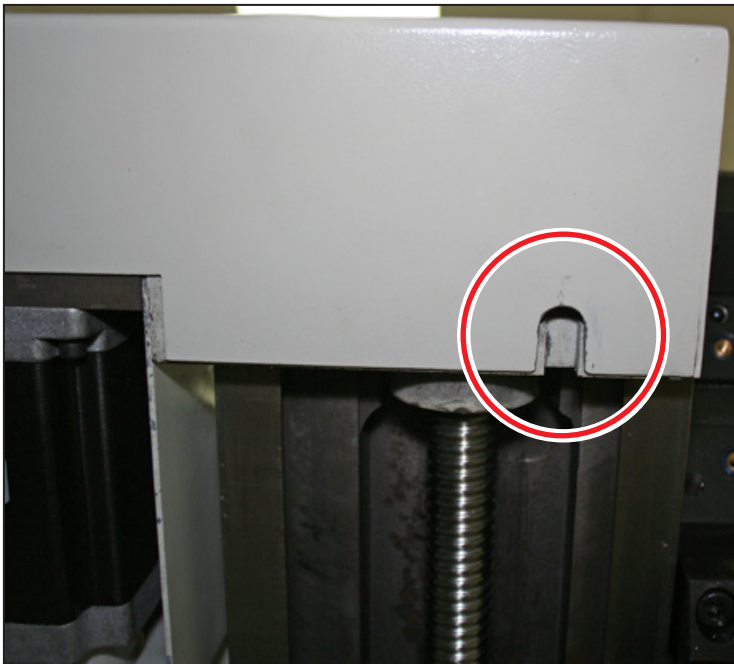
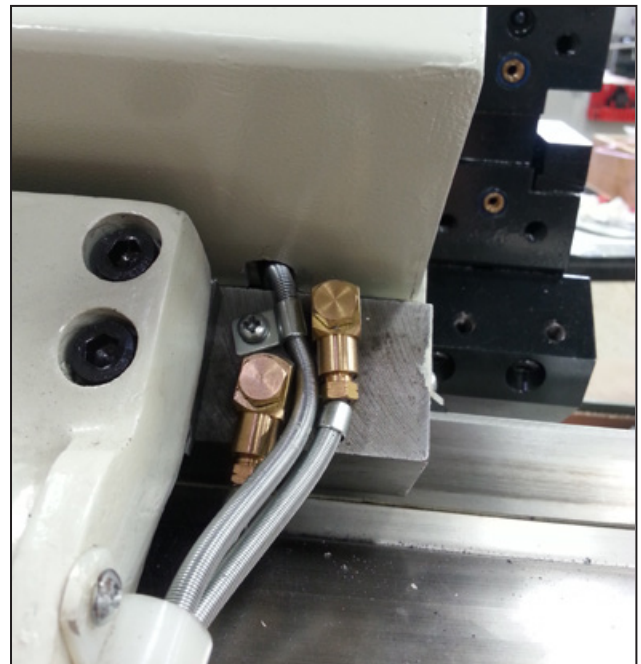

Figure 53
Figure 54
16. Reinstall the X-axis motor cover. Make sure that the oil line has clearance around the slot (see **Figure 53** and **Figure 54**).